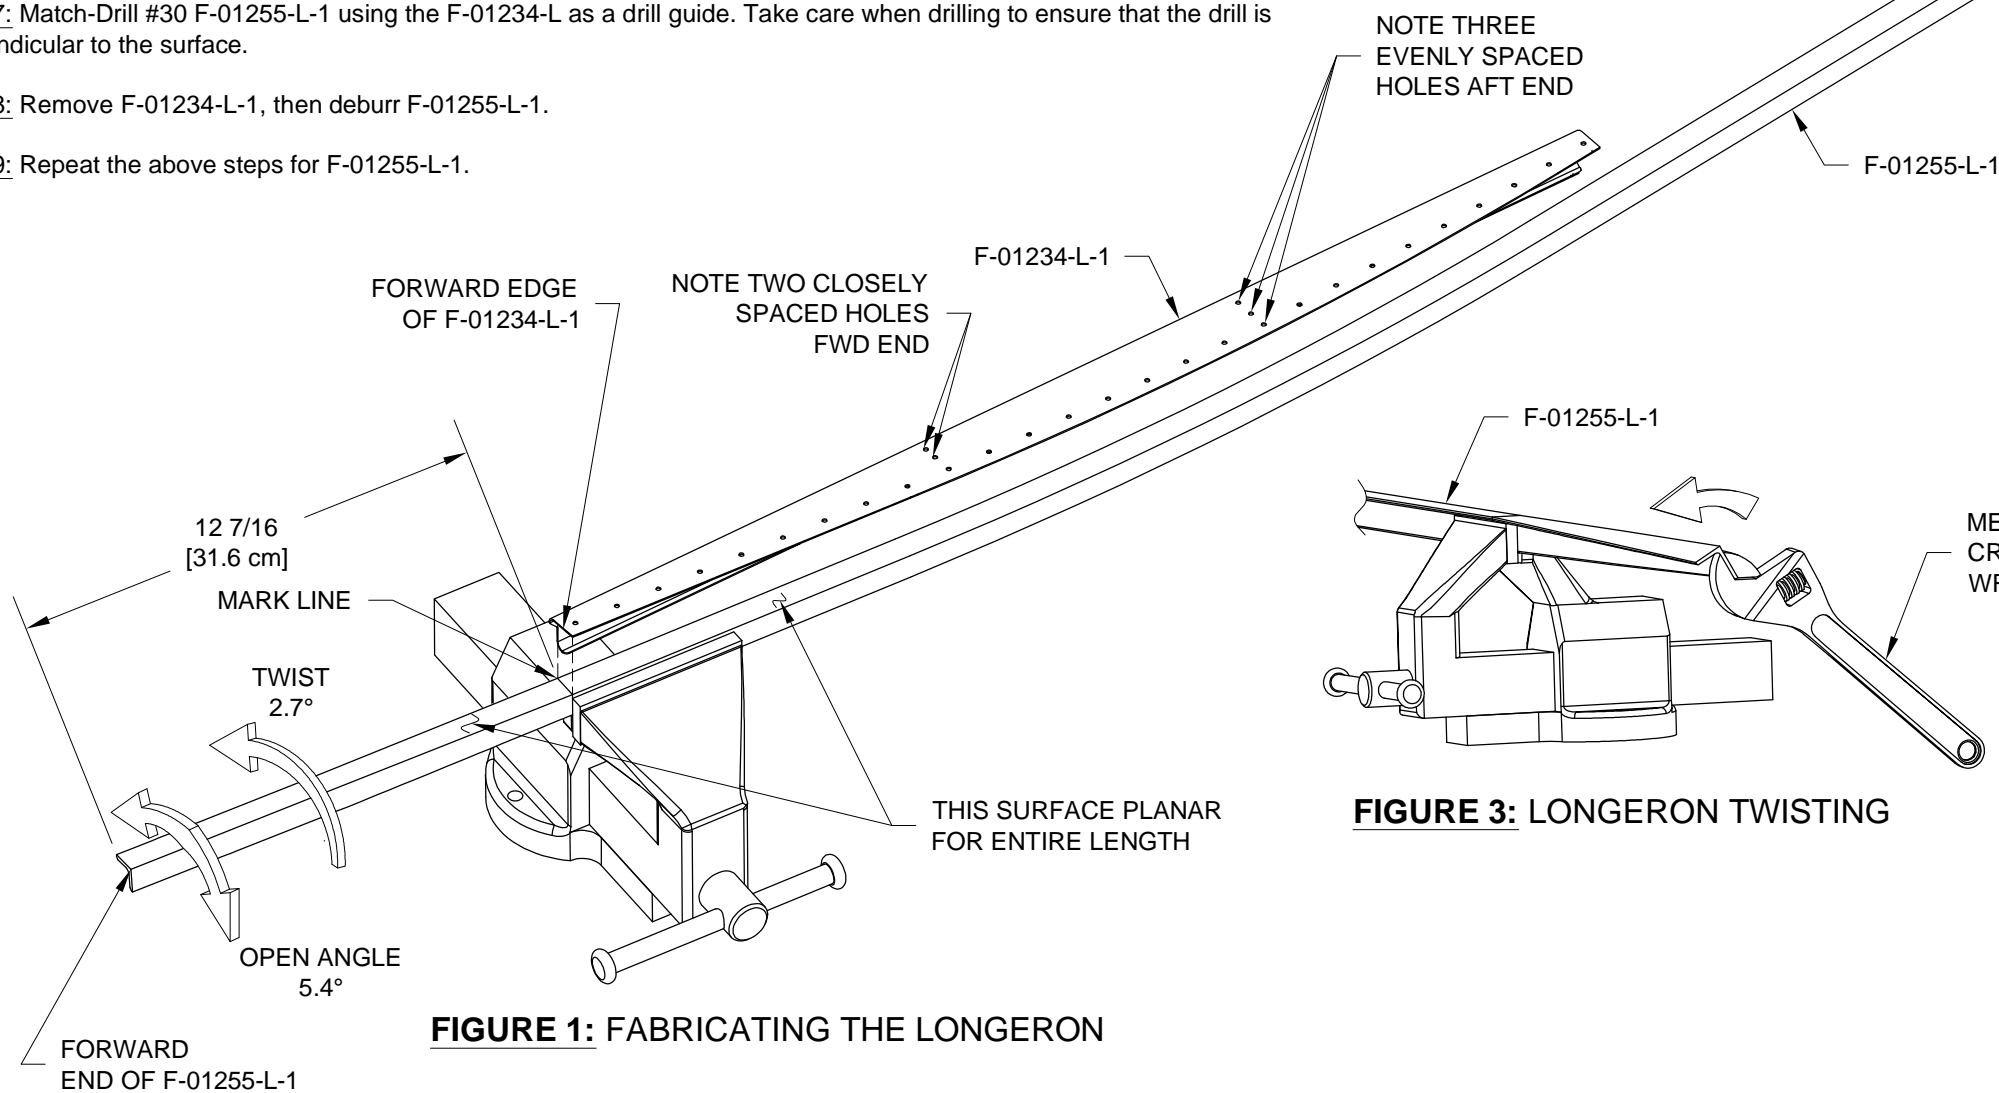

FIGURE 1: FABRICATING THE LONGERON
Step 2: Trim the corner on the aft end of the F-01255-L-1 as shown in Figure 1.
Step 3: Open the angle of F-01255-L-1 with a padded vise and 1/2 inch socket as shown in Figure 4 from forward end of the longeron to the marked line. See Figure 1 and 5.
Step 4: Clamp F-01255-L-1 in a padded vise at the marked line as shown in Figure 1. Use a crescent wrench, as shown in Figure 3, to twist F-01255-L-1 inboard per the dimensions in Figure 1.
With the forward edge of the F-01234-L-1 flush with the marked line on F-01255-L-1, clamp F-01234-L-1 to F-01255-L-1 for match-drilling. See Figure 1.